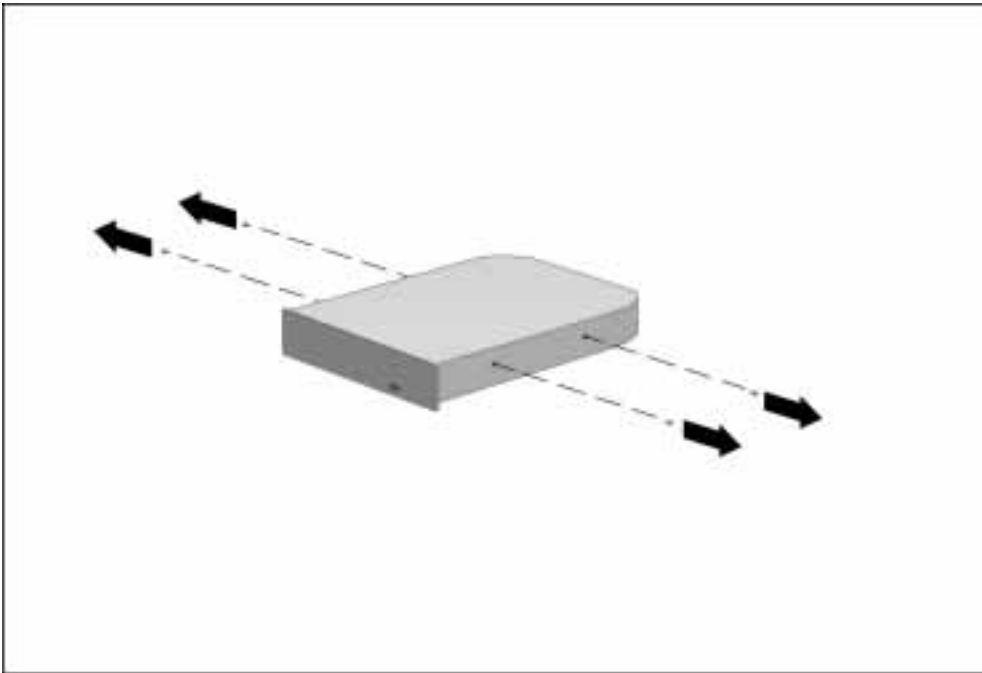

Figure 5-17. Removing the Half-Height Drive Screws
4. Remove the screws from the sides of the half-height drive (Figure 5-17).